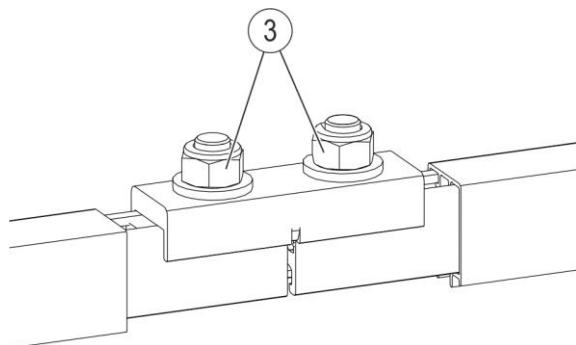

Fig. 78: Tighten nuts M10/M12
- Mount the connector (Pos. 1) with notch cable lugs (Pos. 5), as described in Section 6.4.3.4, with the prescribed torque (SW 13, torque wrench **10 Nm** for stainless steel **nuts**, **12 Nm** for galvanized nuts) (see Fig. 78).